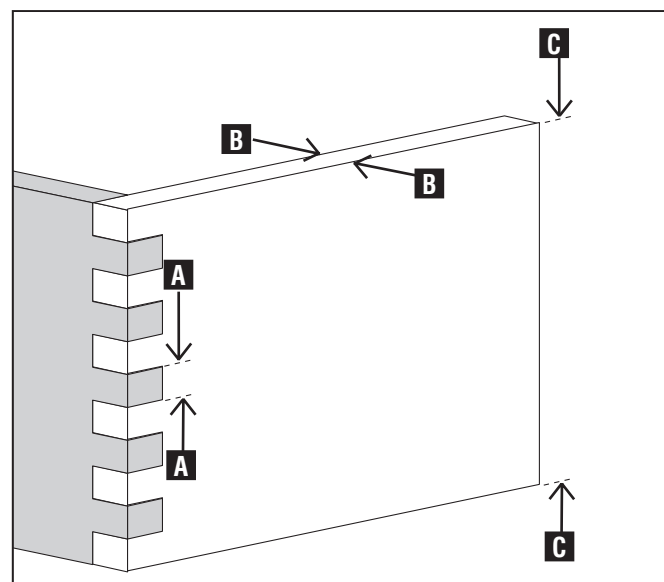

Fig. I3
The following chart shows the maximum board thickness (B) Fig. I3 and the minimum finger widths (A) that can be created with the kits: